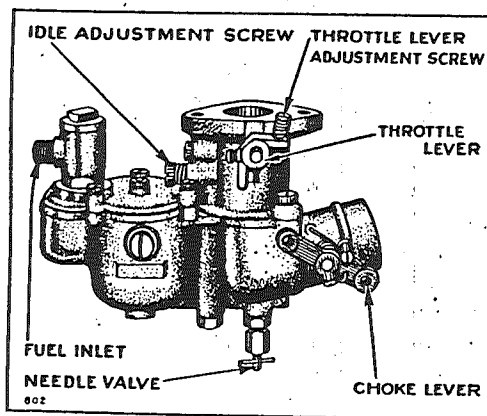

Fig. 11.
52. The carburetor used on your Model "WA" Motor is shown in Fig. 11. As received from the Factory it is properly adjusted. However, if it has been tampered with, it can be adjusted over again as follows:
54. High Speed Adjustment (See Figure 11). Close the needle valve adjusting screw (high-speed adjustment) located on the carburetor, by turning clockwise all the way in (never force the needle against its seat.) Then open the needle valve one and one-half turns.